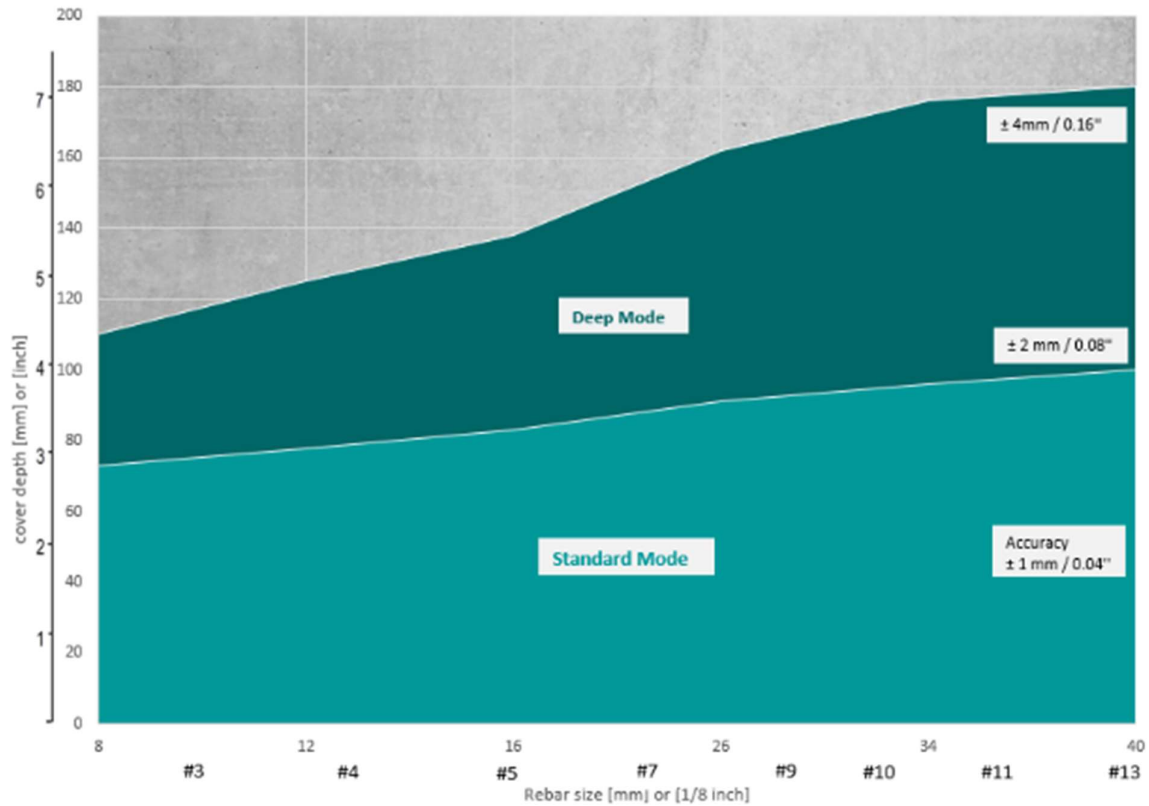

Figure 26: Measuring range without cart
- ❗ In deep mode, 180mm is the maximum depth limit for detection. Nevertheless, if the rebar diameter is known, the Figure 26 provides more precision on the maximum depth possible of detection following the rebar diameter.
However, 80mm limit is only an average depth limit. That is why if the rebar diameter is known, the Figure 26 provides more precision on the maximum depth possible following the rebar diameter.